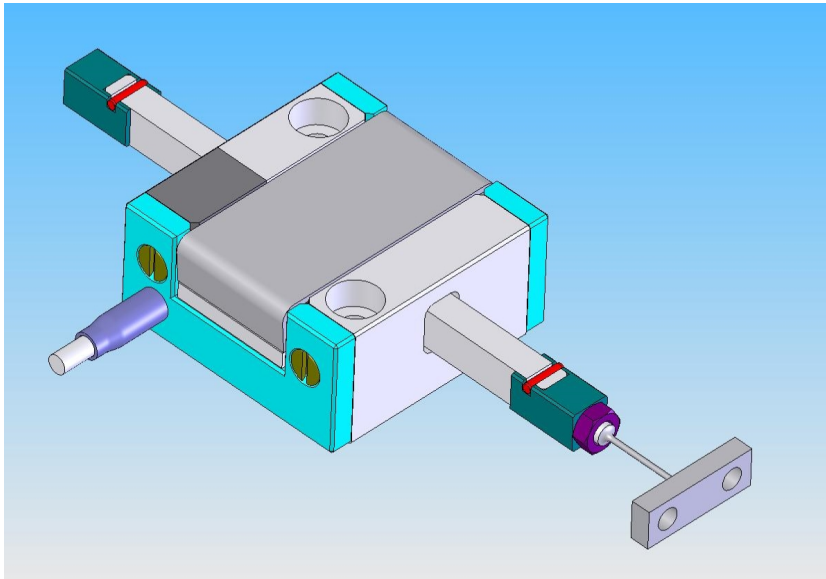
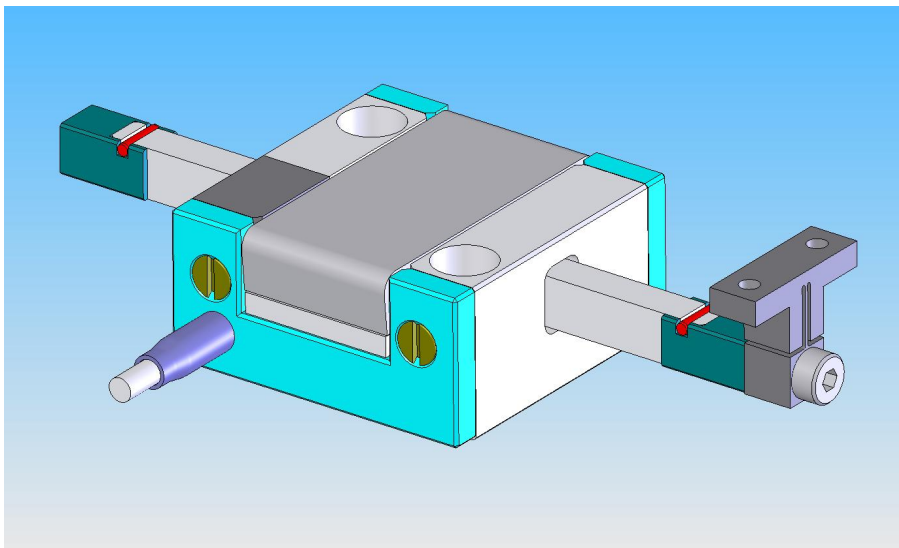

Figure 1: N-310.10 NEXACT® drive with an example for a coupling
Figure 2: N-310.10 NEXACT® drive with another possible coupling
- ✓ The coupling between rod and stage must be very stiff in the rod's motion direction, here along X axis, but flexible in Y axis. See Fig. 1 and Fig. 2 below for a drive with two examples for a coupling.